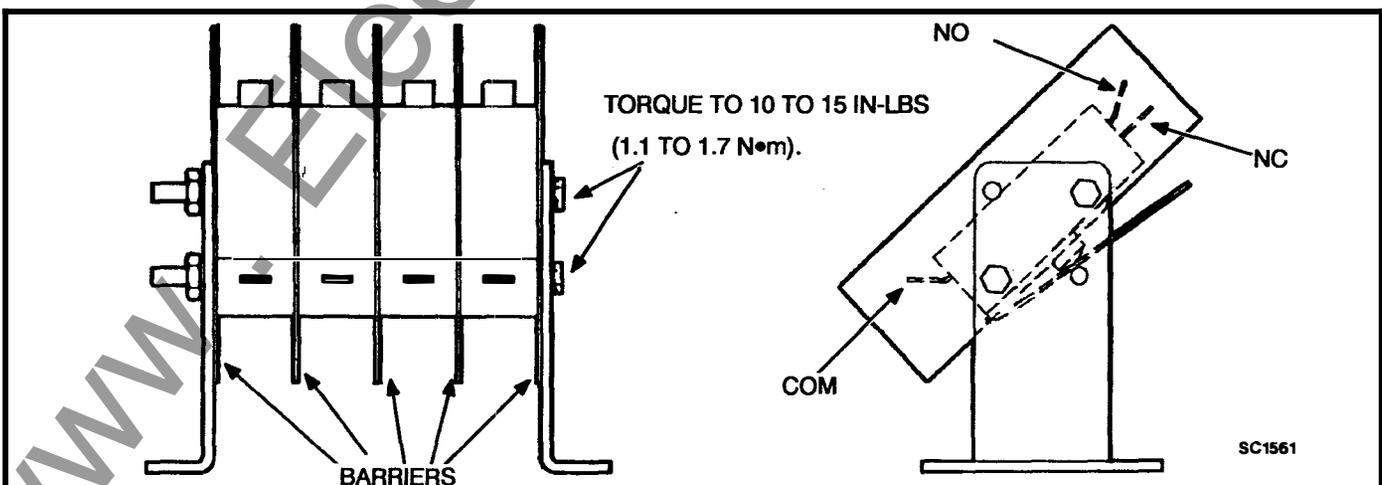

FIGURE 4-10. AUXILIARY SWITCH (150 TO 260 AMPERES)
4. Remove the control wiring leads from the auxiliary switch terminals (Figure 4-10).
7. Remove the hex head capscrews and nuts that secure the auxiliary switches to the brackets (Figure 4-10), and lift out the four auxiliary switches and insulating barriers.
Tighten to 10 to 15 in-lbs (1.1 to 1.7 N•m). Note that each switch must be assembled so the side with two terminals faces inward (Figure 4-10) when the auxiliary switch assembly is installed on the base.